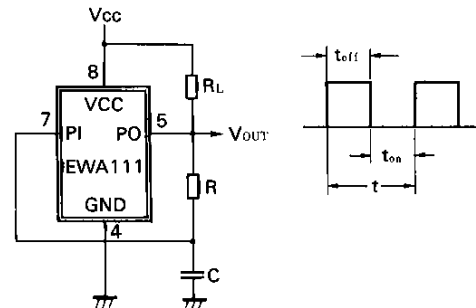

Fig. 15 Astable multivibrator circuit
Figure 15 shows an example of an EWA111-applied astable multivibrator circuit. The output transistor ON time t_{on} , OFF time t_{off} , and cycle t can be calculated using formulas (12), (13), and (14).